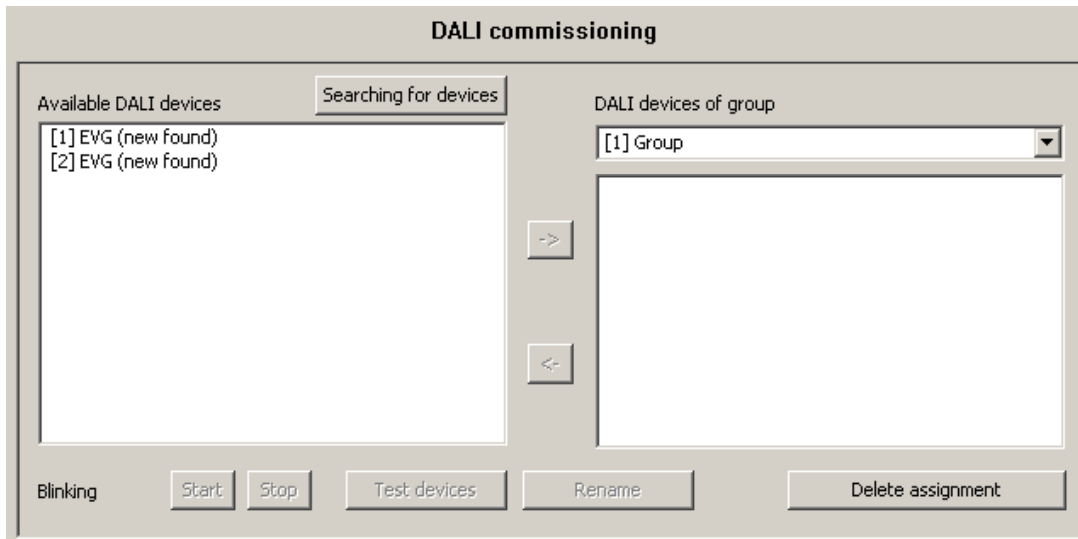

Figure 38: Assigning a name to identified devices
A dialogue box will open for renaming the device. Names cannot have more than 28 characters. The name may include alphanumerical as well as special characters. It is recommended to assign a unique name to each device (e.g. “Light 1 Window South”, “Light 2 Window South”, Light 1 Office Middle” etc. / cf. figure 38 on the following page).
- The short addresses of the identified devices are assigned randomly. Several test functions available in the plug-in can be used to detect during the name assignment which device is actually identified in the list entry. The “Start”, “Stop”, and “Test devices” buttons running the test functions are found in the lower margin of the commissioning environment (cf. figure 38). The devices to be tested have to be selected in the left partition first.